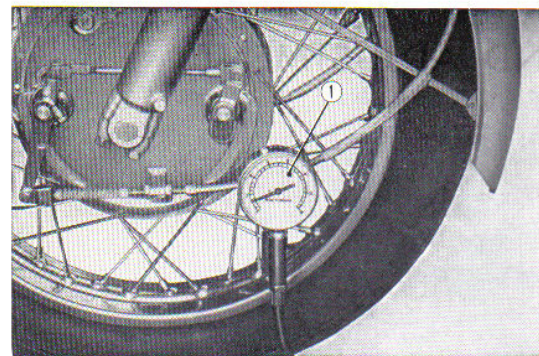

Fig. 6.2 Rated compression
① Thickness gauge ② Cam follower shaft
③ Screw driver
(3) To measure the specified compression, measurement should be performed with the engine warm.
d. The rated compression is 13 kg/sq·cm. (185 p.s.i.) (Fig. 6.2)